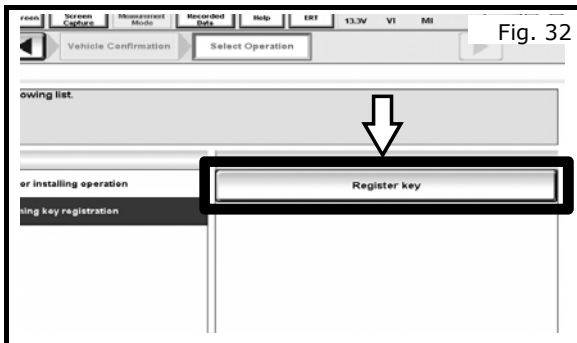

Fig. 32
- a) Once you click "When performing key registration" a new Contents of Operation selection "Register Key" will be available as shown in Fig. 32.
- b) Under Contents of Operation selection click "Register Key" as shown in Fig. 32.